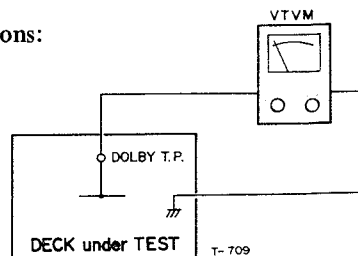

Fig. 6-4 Connection
2. Adjust R10/R20 for 580 mV (-2.5 dB) on AC Voltmeter connected to the Dolby test points. (Fig. 6-4)